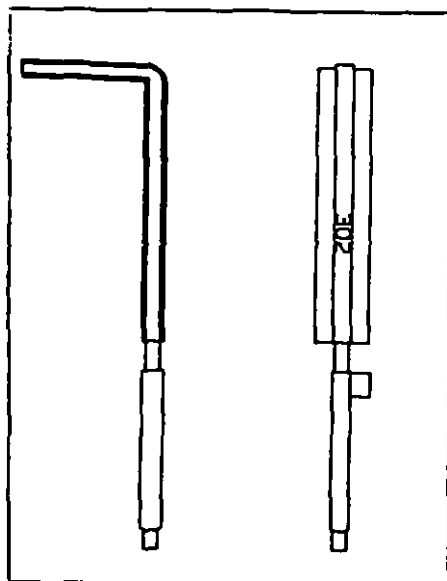

Figure 34
f) Insert the change key (see Figure 34) into the change key hole in the back cover. Turn the key in the direction indicated by the arrow until it stops. Leave the change key in this position (see Figure 35).